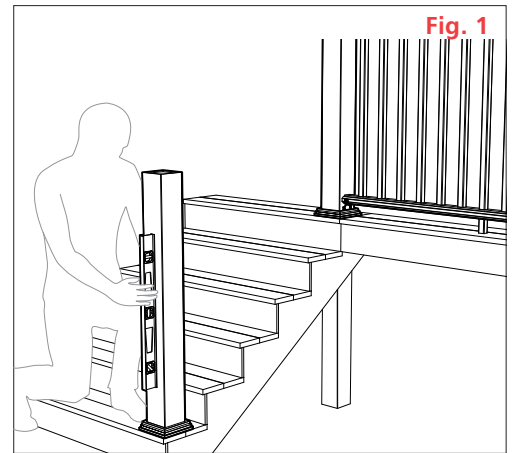

Fig. 1
- 1 Install and prepare posts or other mounting surfaces for Marquee™ Railing installation. Ensure mounting surfaces are level and plumb. **(Fig. 1)** TAMKO® recommends using Marquee Post Mount systems or wood posts covered with our matching Marquee Post Sleeve and Marquee Wood Post Spacers.
- 1 Assemble the concrete surface plate to the bottom of the post mount member as shown using four of the supplied 2" coated hex bolts, 3/8" coated lock washers and coated 3/8" hex nuts. (Fig. 1) Tighten nuts to 33 ft-lb using a torque wrench. Ensure that the hex bolt heads are firmly seated inside the surface plate channels.